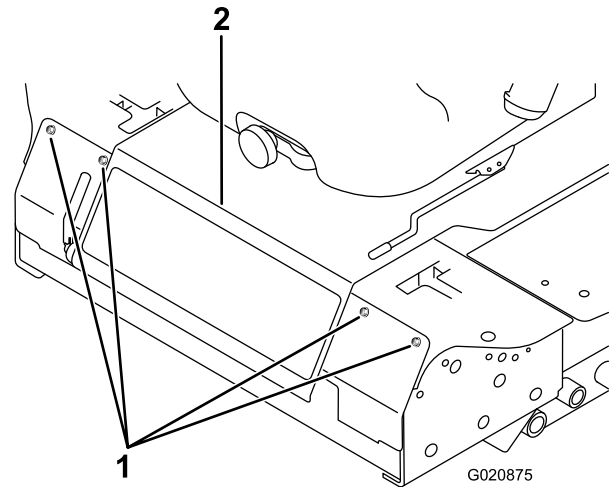

Figure 72
2. Remove the bolts securing the front panel and remove the panel (Figure 72).